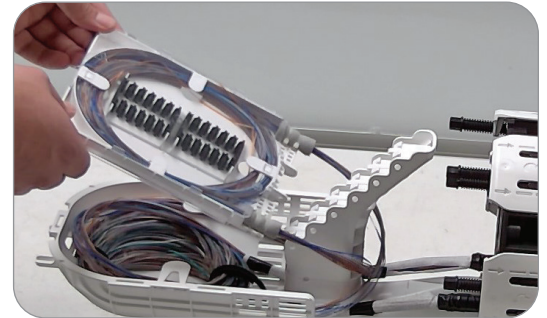

Figure 43
5. Figure-8 the fiber into the tray at the top of the basket and again under the yoke. (Figure 43)